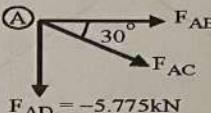

Fig. Ex. 8.3.1(c)
b) Consider joint A (Fig. Ex. 8.3.1(c))